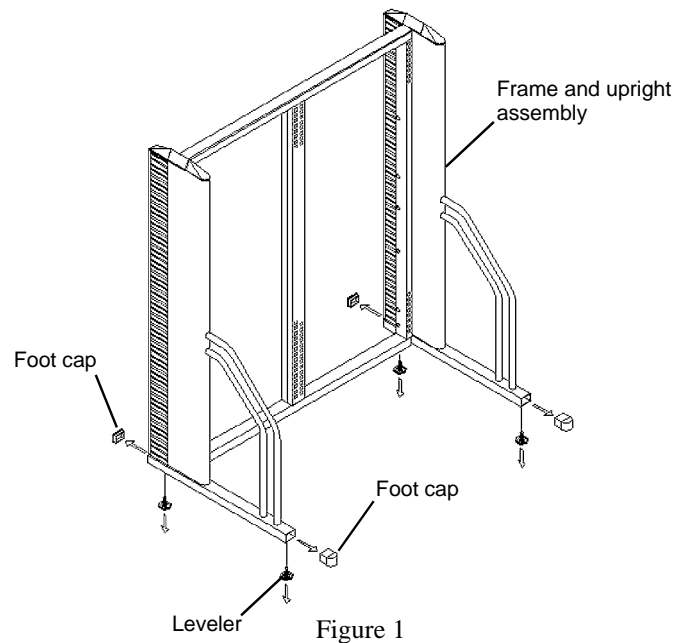
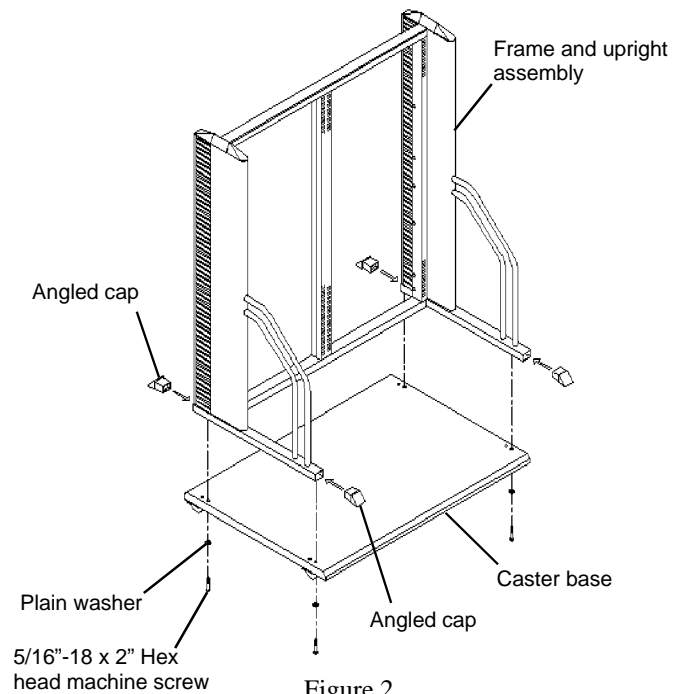

Figure 1
Figure 2
2. Remove the **Levelers** and **Foot Caps** from the Vertical Upright feet. See **Figure 1**. **NOTE:** If it is a **Full Frame Basic**, remove the Levelers and Front Caps only. Replace the removed caps with the **Angled Caps** packaged with the Caster Base. See **Figure 2**.
3. With a minimum of two people, lift the assembly and position it on the Caster Base. Fasten it to the Caster Base using the four 5/16"-18 x 2" Hex head machine screws and washers provided. Tighten securely with a 1/2" wrench. See **Figure 2**.